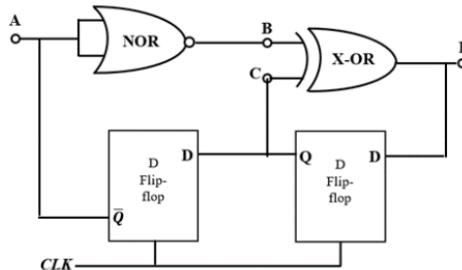

Fig. 5.9
9. Find the decimal equivalent of $ABCD$ in Fig. 5.9.